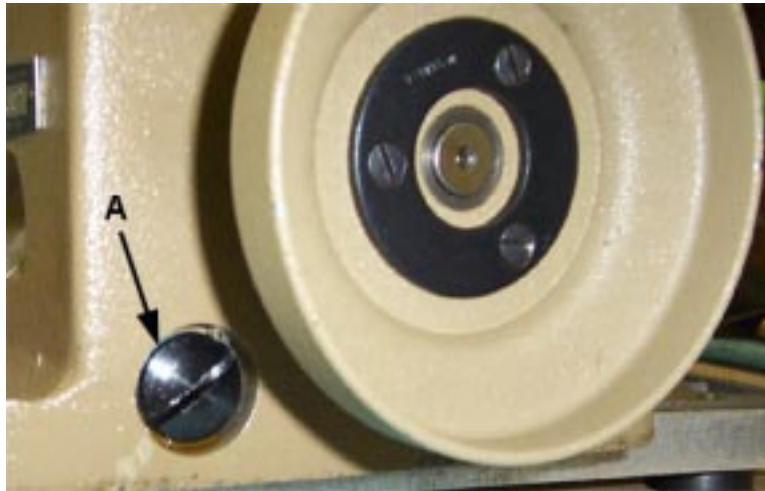

Fig 1
- 1) Drain oil from machine using oil plug **A** (fig 1)